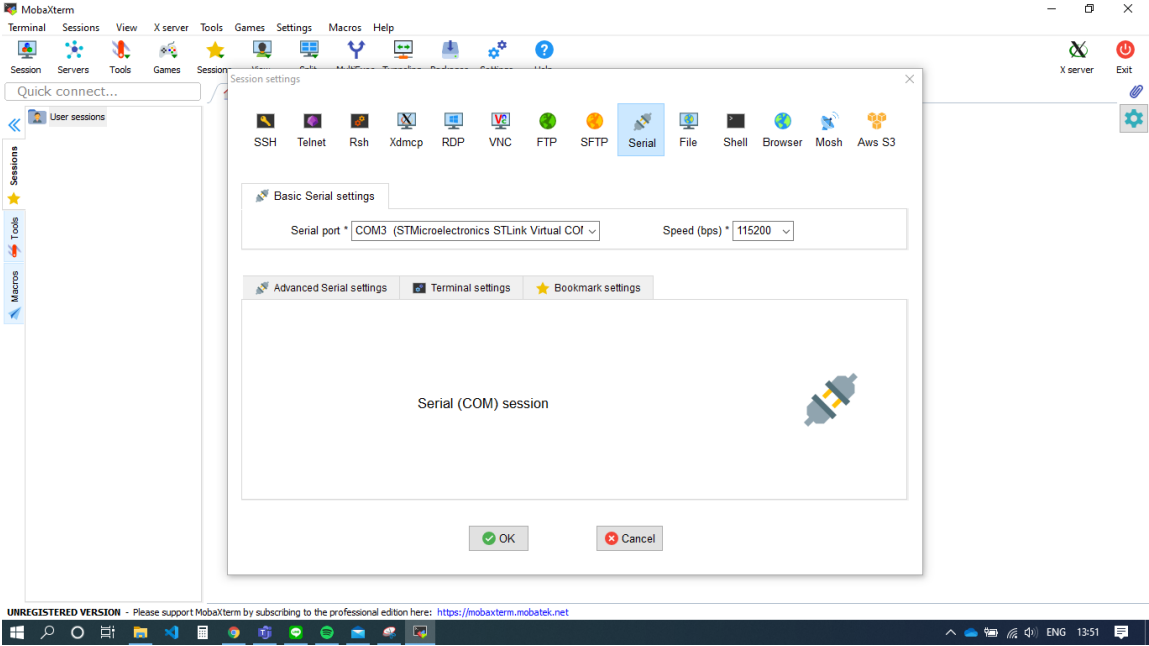

Figure 2-8 Basic Serial setting
5. **Figure 2-8**, under the tab "Basic Serial settings", click at the drop-down menu "Serial port" to select a port to connect. If the reader is already connected with the PC then the correspondent port number should be automatically shown up here. Otherwise, try restarting MobaXterm.